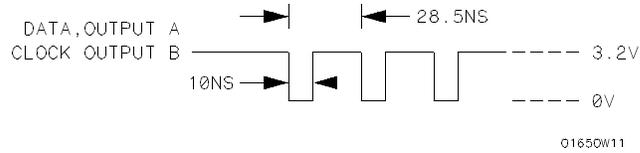

Figure 3-11. Waveform for Data Test 2
2. Adjust pulse generator for the output in figure 3-11. Pulse generator settings